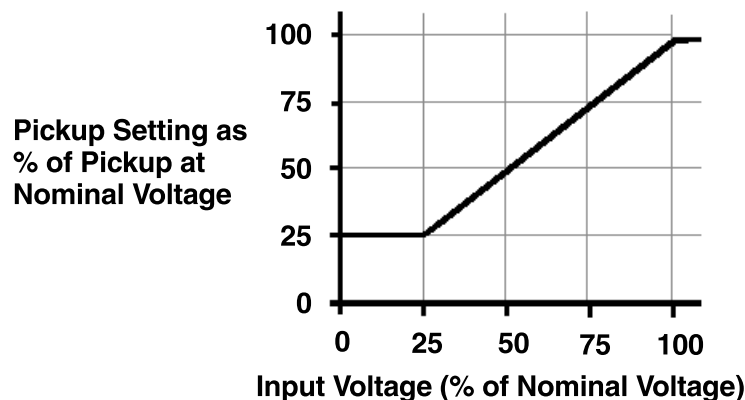

Figure 3-40 Voltage Restraint (51V) Characteristic
When voltage restraint is selected, the pickup of the 51V is modified continuously according to the voltage inputs, as shown in Figure 3-40. The relay continues to operate independently of current decrement in the machine. The voltage restraint function is well-suited to small generators with relatively short time constants. Voltage restraint is disabled when the relay is shipped from the factory. When the generator is connected to the system through a delta/wye transformer, proper voltages (equivalent to the high-side of the transformer) should be used for the 51V element. The M-3410A can internally determine the equivalent high-side voltages (when supplied by Low (generator) side VT's) of the delta/wye unit transformer, saving auxiliary instrument transformers. The voltage-current pairs used are shown in Table 3-2, Delta/Wye Transformer Voltage-Current Pairs.
■ **NOTE:** This function should be blocked by fuse loss if in the voltage control mode. Fuse loss blocking is not required for the restraint mode because the pickup is automatically held at 100% Pickup (see Figure 3-40) during fuse loss conditions, and will continue to operate correctly.